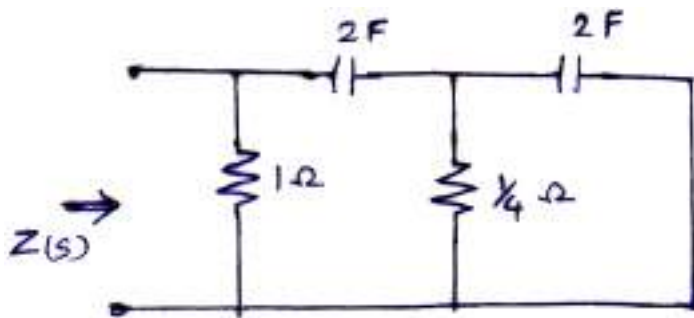

Figure 2 Q. 2(b)
b) For the network shown in figure 2 find the driving point function $z(s)$. Plot the poles and zeros of $z(s)$ on S plane. 6